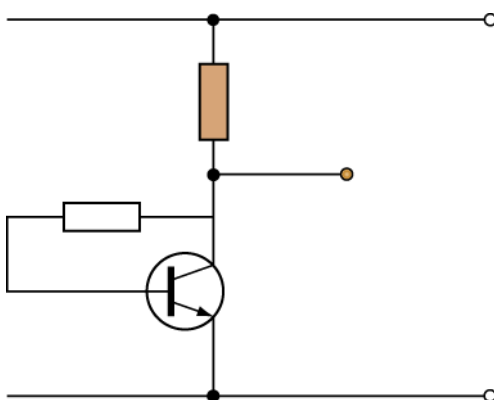

Fig. E5-3
3. What is the resistor coloured brown called shown in Fig. E5-3?